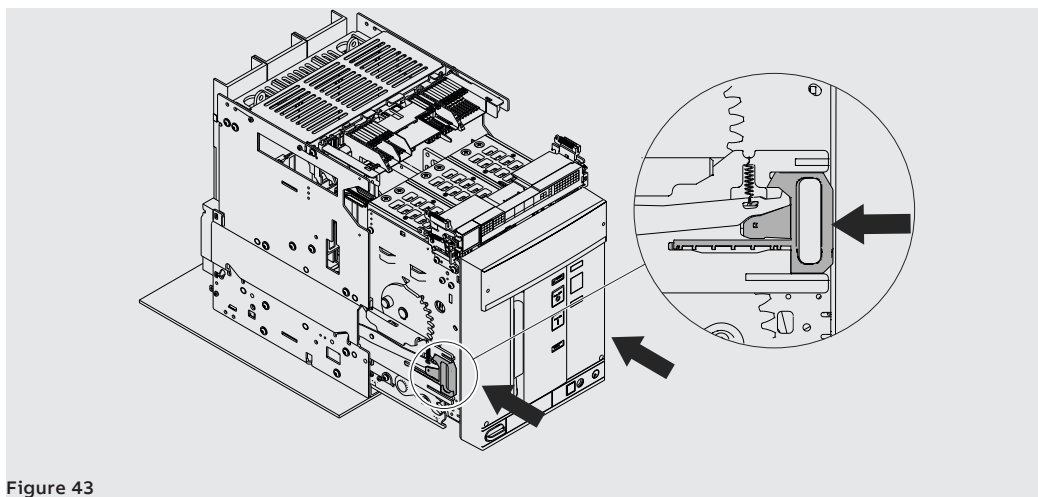

Figure 43
7. Grip the guide levers of the fixed part and push them until the moving part stops. See Figure 43.